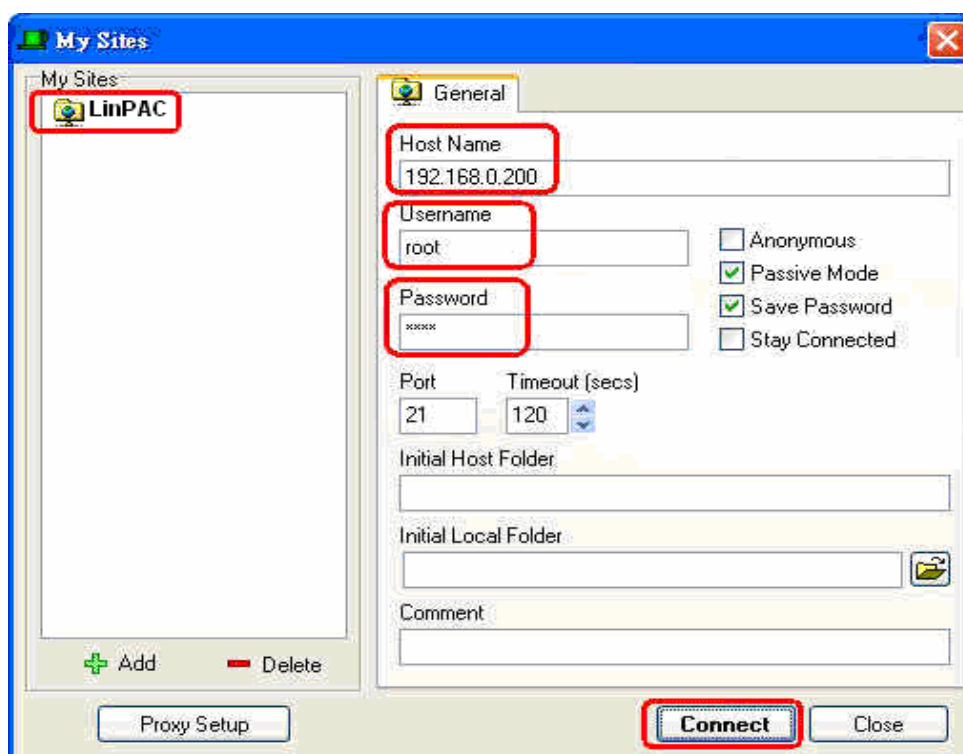

Fig.5-6
- (1) Open the FTP Software and add an FTP Host to the LP-8x21. Type the **User_Name** (default value is “**root**”) and **Password** (default value is “**icpdas**”). Then click the “**Connect**” button to establish a connection to the ftp server on the LP-8x21. (refer to Fig. 5-6).